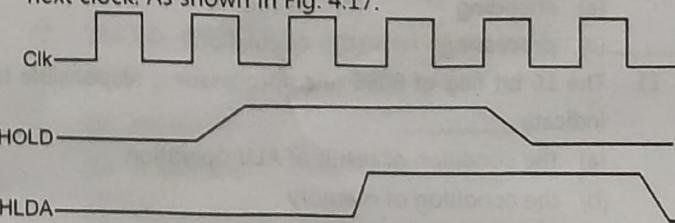

Fig. 4.17 : Bus request and bus grant timings in minimum mode system
- The control of the bus is not regained by the processor until the requesting master does not drop the HOLD pin low. When the request is dropped by the requesting master, the HLDA is dropped by the processor at the trailing edge of the next clock. As shown in Fig. 4.17.